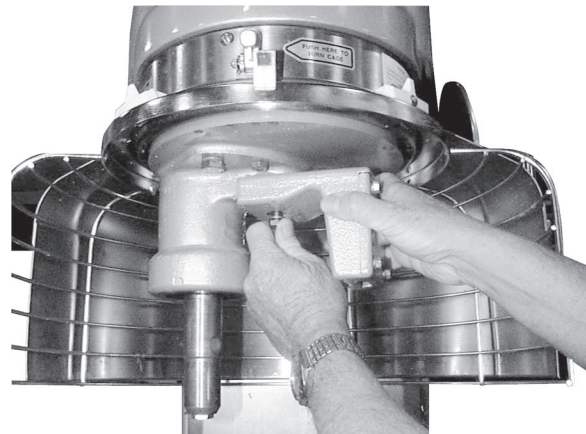

Fig. 5
4. Install bracket using the new bolt and the lockwasher removed in step 1, (Fig. 5). Remove excess sealant by wiping around top of bracket with your finger. Tighten bolt to 228 to 285 in-lbs. torque.